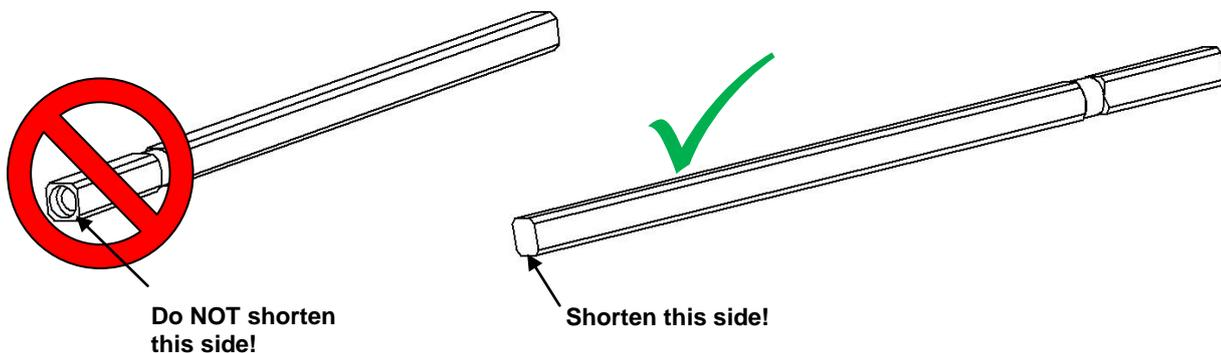

Figure 33: Shortening the drive shaft
Shorten the drive shaft (2) only on the side **not** drilled (see Figure 33)!